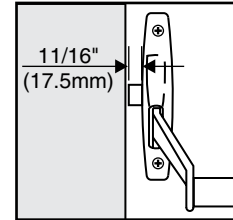

Figure 13
1. Latch should project 11/16" (17.5mm) when crossbar is in neutral position. (Figure 13)